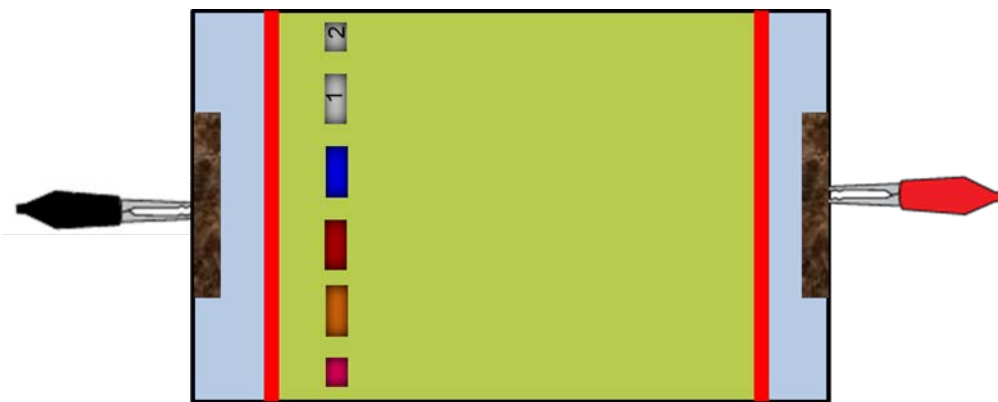

Figure 14: Top view of gel chamber. Notice how the carbon paper (brown shape) is clipped to the inside wall of the chamber by the alligator clip.
14. Fasten one piece of carbon fabric on the inside of each end of the gel chamber by clamping one alligator clip over the fabric at the top end of the chamber (the end closest to the wells) and the other alligator clip over the fabric at the bottom end, as shown in Figure 14. The carbon fabric should not touch the TBE buffer.